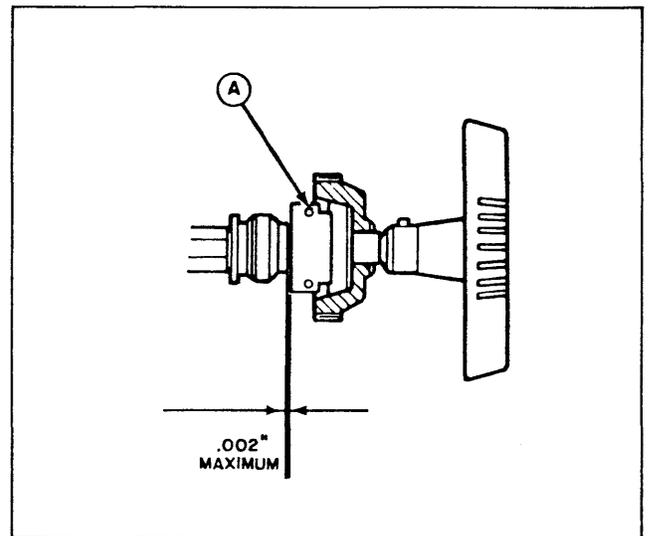

Figure 3-21. Platen Knob End Play Adjustment
3.4.1.2.4 Platen Knob End Play. Refer to Figure 3-21. End play should be .002 in. (.05 mm) maximum, as shown. Adjust for proper clearance by loosening the setscrews in the platen release gear hub (A) and moving the hub. Retighten the setscrews.